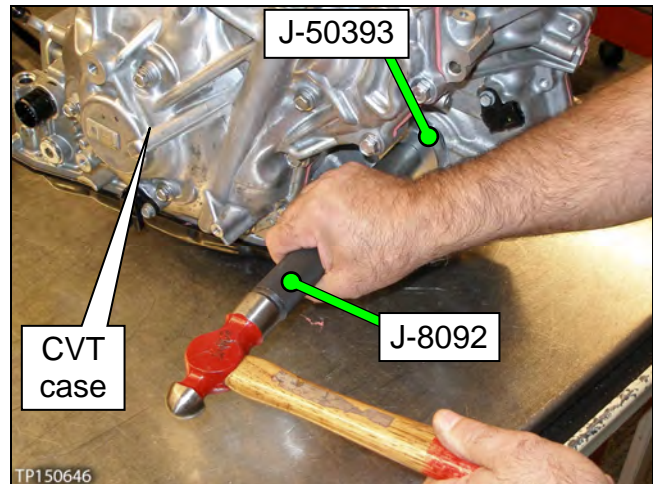

Figure 34F
29. Install the CVT case side axle seal (Figure 34F).